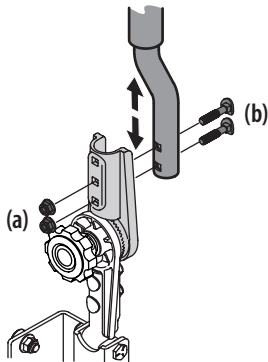

Figure 2-5
1. Remove the flange lock nuts (a) that secure the carriage bolts (b) in the drive control levers. See Figure 2-5.